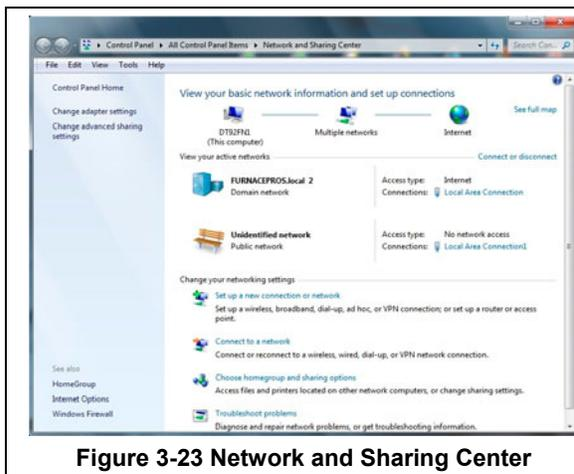

Figure 3-23 Network and Sharing Center
- From Network and Sharing Center click on the connection that corresponds to the furnace network (will say "No network access"), Figure 3-23